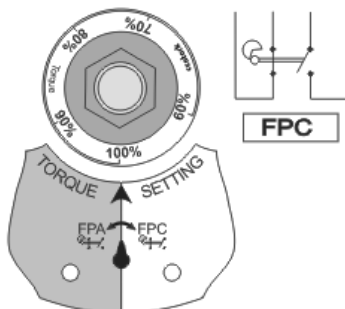
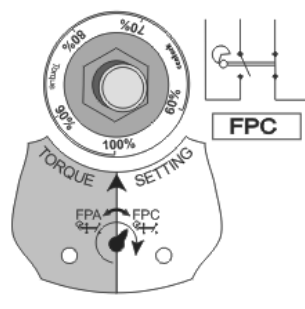
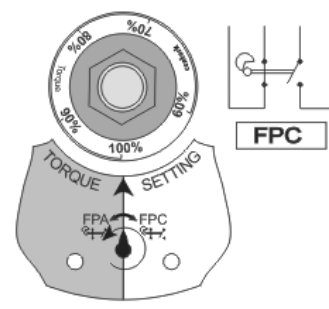

Figure 12.4-1
Figure 12.4-2
Figure 12.4-3
- When torque on valve shaft exceeds the value set, e.g. running to close, shaft **T** turns to the right (Pointing to FPC), at the same time **TORQUE LIMIT DEVICE** releases (Figure 12.4-1 and Figure 12.4-2). FPC microswitch is tripped. Automatically, or when actuator starts running to opposite direction, mechanism returns or resets. Notice that **TORQUE LIMIT DEVICE** latches again (Figure 12.4-3).